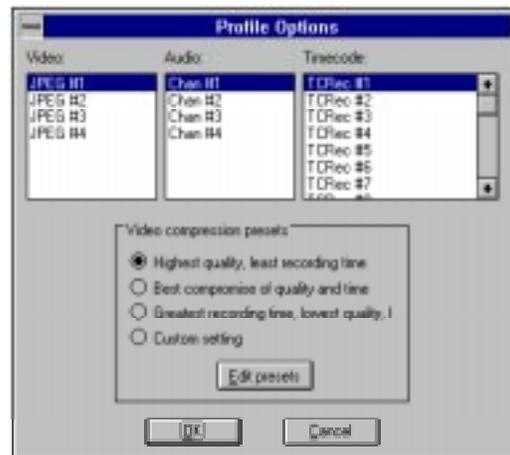

Figure 141. Profile Options (controller configuration) dialog box
2. Choose **Controller | Configure** to access the Profile Options dialog box for the selected panel. Figure 141 illustrates the standard Profile Options dialog box.